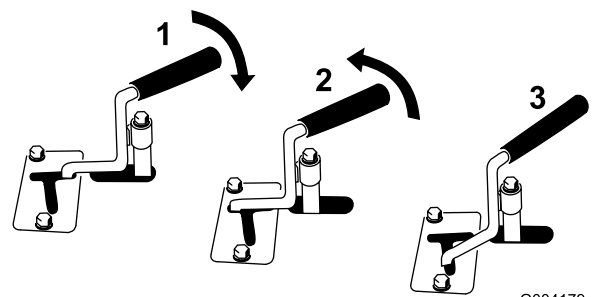

Figure 12
- To operate a hydraulic attachment in the forward direction, rotate the auxiliary-hydraulics lever rearward and pull it down to the reference bar (Figure 12, number 1).
- To operate a hydraulic attachment in the reverse direction, rotate the auxiliary-hydraulics lever rearward, then move it left into the upper slot (Figure 12, number 2).
**Note:** If you release the lever while in the FORWARD position, the lever automatically returns to the NEUTRAL position (Figure 12, number 3). If it is in the REVERSE position, it remains there until you pull it out of the slot.